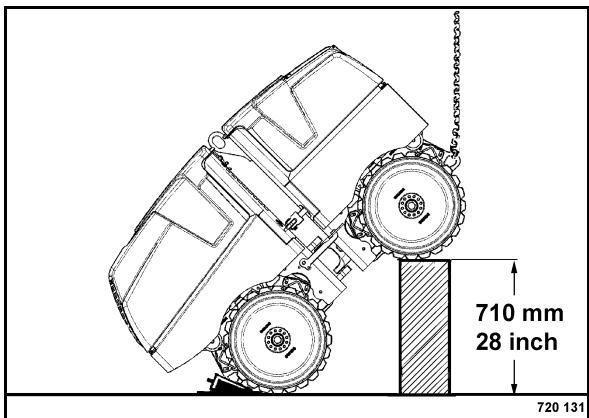

Fig. 106
- Jack up the opposite side of the machine and secure it adequately (Fig. 106).